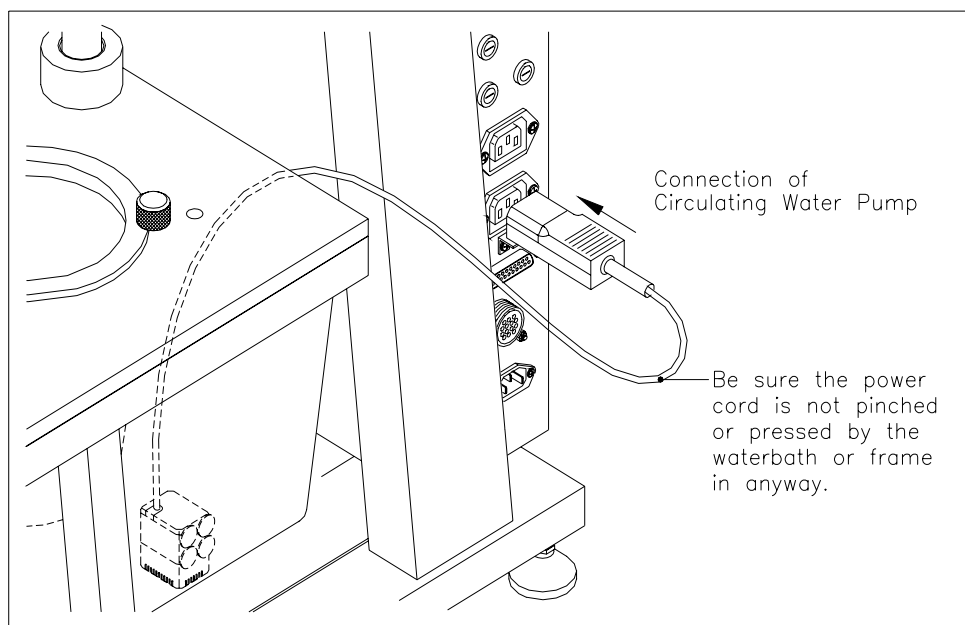

Figure 4-12: Circulating Water Pump Connection
11. Install the Circulating Water Pump. (see Figure 4-12)